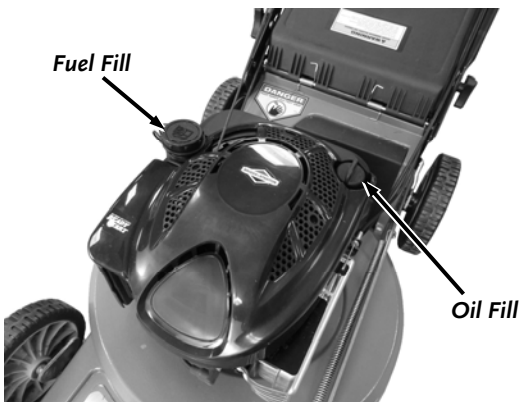

Figure 16
1. Remove the dipstick, wipe it clean, and insert it back into the Oil Fill making sure it is all the way on (**Figure 16**).
1. Ensure the Fuel Cap is tight and remove the Dipstick (**Figure 16** on page 15).